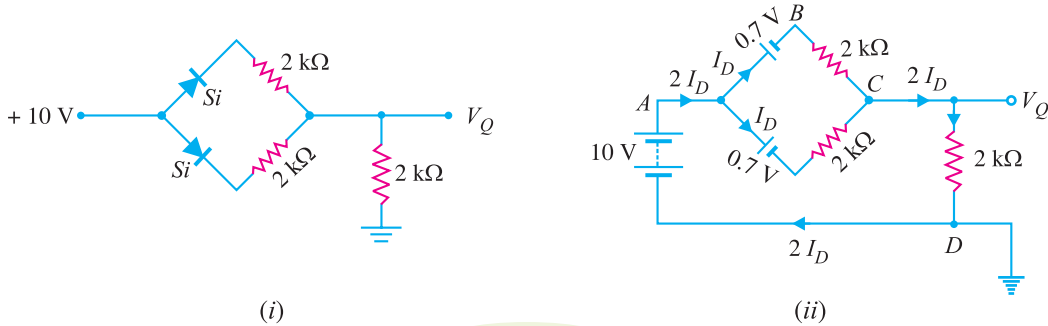

Fig. 6.14
**Example 6.7.** Find  $V_Q$  and  $I_D$  in the network shown in Fig. 6.14 (i). Use simplified model.
**Solution.** Replace the diodes by their simplified models. The resulting circuit will be as shown in Fig. 6.14 (ii). By symmetry, current in each branch is  $I_D$  so that current in branch  $CD$  is  $2I_D$ . Applying Kirchhoff’s voltage law to the closed circuit  $ABCD$ , we have,